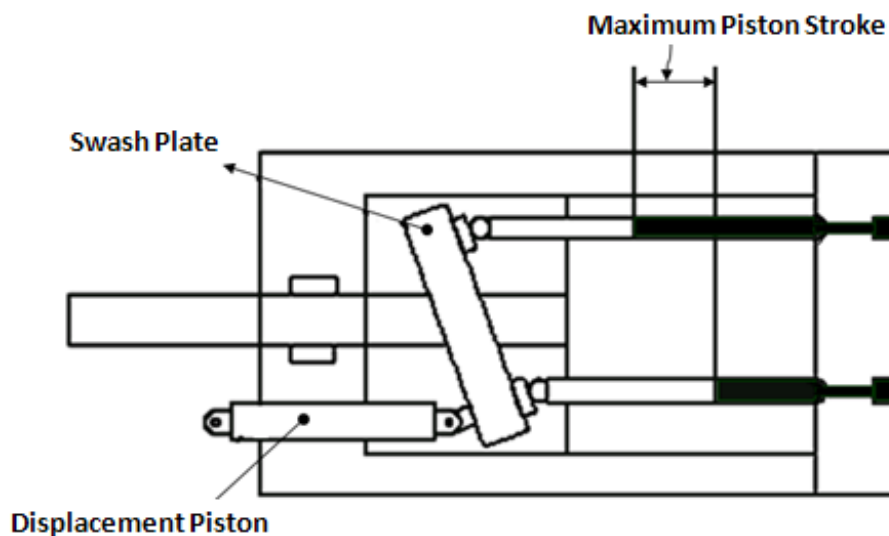

Fig.3.9 - Swash plate axial piston pump
- ▶ A swashplate is a device that translates the rotary motion of a shaft into the reciprocating motion. It consists of a disk attached to a shaft as shown in Figure 3.9. If the disk is aligned perpendicular to the shaft; the disk will turn along with the rotating shaft without any reciprocating effect.
- ▶ In a swashplate axial piston pump, a series of pistons are aligned coaxially with a shaft through a swashplate to pump a fluid. The schematic of the swash plate piston pump is shown in Figure 3.9. The axial reciprocating motion of pistons is obtained by a swashplate that is either fixed or has a variable degree of angle.